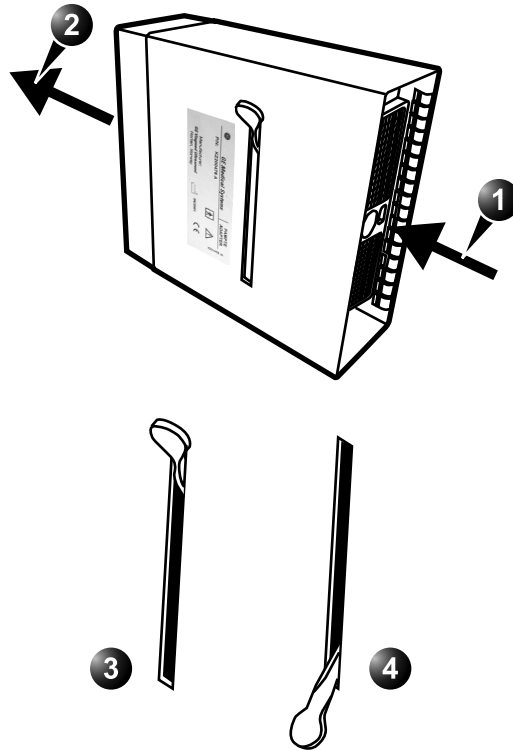

Figure 10-3: The PAMPTE probe adaptor
The PAMPTE and the 6Tv probes are equipped with a Vivid Five connector. To connect the these probes on the Vivid 7/ Vivid 7 PRO, an adaptor must be used (see Figure 10-3).
4. Ensure that the locking handle on the adaptor is in up position (see Figure 10-3).
6. Move the locking handle to the down position to lock in place (see Figure 10-3).